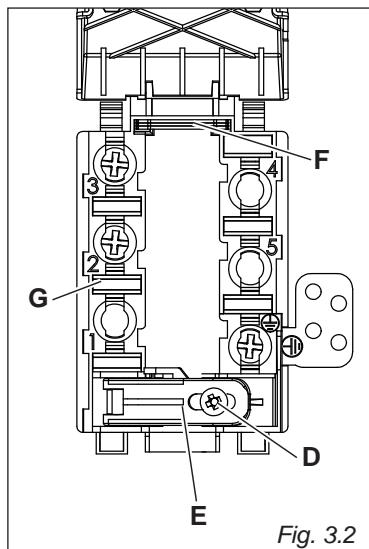

Fig. 3.2
- Connect the wires to the terminal block "B" according to the diagram in figure 3.2.